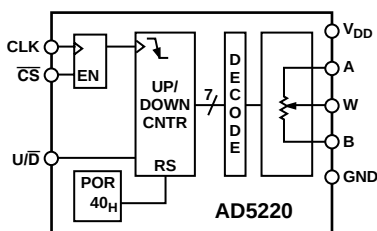

Figure 35. Block Diagram
The AD5220 contains a three-wire serial input interface. The three inputs are clock (CLK), $\overline{\text{CS}}$ and UP/DOWN ($\text{U}/\overline{\text{D}}$). The negative-edge sensitive CLK input requires clean transitions to avoid clocking multiple pulses into the internal UP/DOWN counter register, see Figure 35. Standard logic families work well. If mechanical switches are used for product evaluation they should be debounced by a flip-flop or other suitable means. When $\overline{\text{CS}}$ is taken active low the clock begins to increment or decrement the internal UP/DOWN counter dependent upon the state of the $\text{U}/\overline{\text{D}}$ control pin. The UP/DOWN counter value (D) starts at 40_{H} at system power ON. Each new CLK pulse will increment the value of the internal counter by one LSB until the full scale value of 3F_{H} is reached as long as the $\text{U}/\overline{\text{D}}$ pin is logic high. If the $\text{U}/\overline{\text{D}}$ pin is taken to logic low the counter will count down stopping at code 00_{H} (zero-scale). Additional clock pulses on the CLK pin are ignored when the wiper is at either the 00_{H} position or the 3F_{H} position.